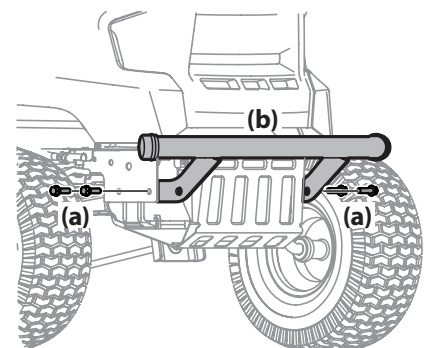

Figure 2-10
2. Position the bumper brackets to the *inside* of the tractor's frame and secure it in place with the four hex flange screws (a). See Figure 2-10.